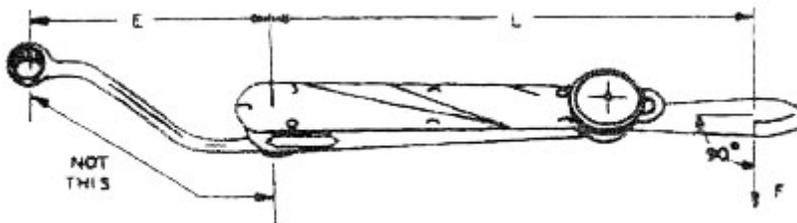

Figure 4-18. Adaptor Attached to Square Drive (Incorrect Measurement)
12. This adaptor or wrench affects the dial reading. Factor "E" is involved and therefore a correction is necessary. Note that "E" is not the length of the adaptor but only the increase in length parallel to the torque wrench. (See Figure 4-18.)